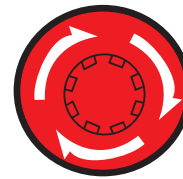

Figure 44. Emergency Stop Switch
1. To stop the engine in the event of an emergency, push the **Emergency Stop switch** (Figure 44).